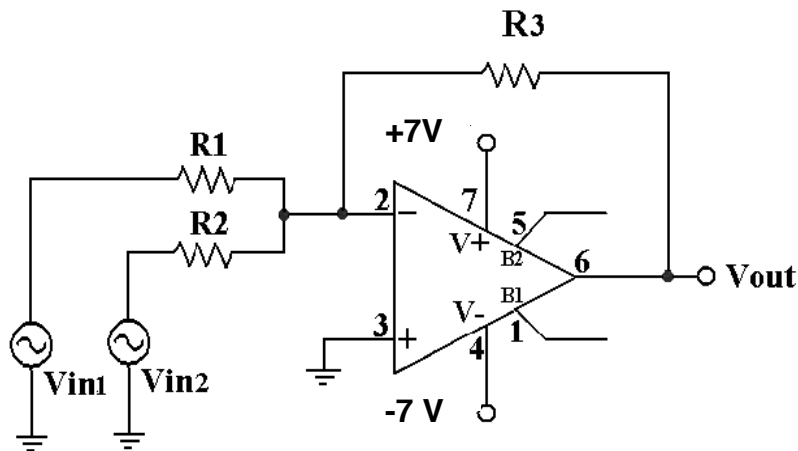

Fig 1. Summing amplifier circuit
*Summing Amplifier:* An inverting amplifier can be modified to accommodate multiple input signals as shown in Fig. 1. Since the circuit is linear, the output voltage can easily be found by applying the superposition principle: the output voltage is a weighted sum of the two input signals. The weighting factor is determined by applying one of the input signals while the other is grounded and analyzing the resulting circuit. Since the circuit is linear, the analysis is repeated for the other input, and the final result is the addition of both signals. The advantage of this approach is that we can easily recognize the effect of each signal on the circuit's performance, and the overall output can be obtained in most of the cases by inspection. For the circuit shown below, the following equation results: